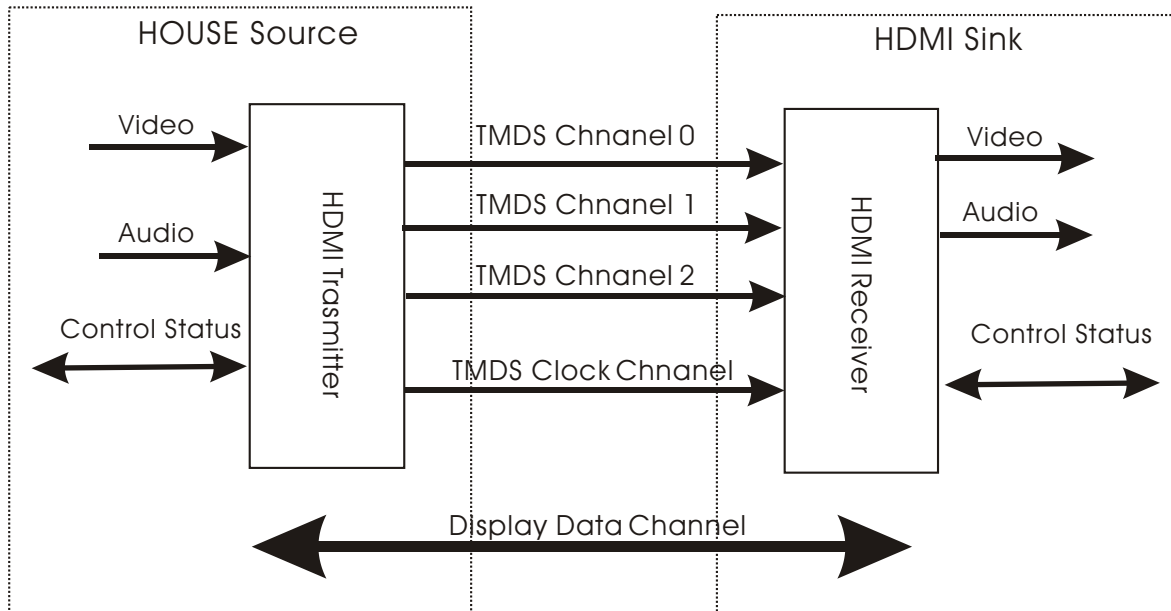

Figure 3.2.16.1 HDMI circuit block diagram
1. HDMI circuit block diagram is shown in the figure 3.2.16.1, “Source” refers to device with HDMI output jack and “Sink” refers to device with HDMI input.